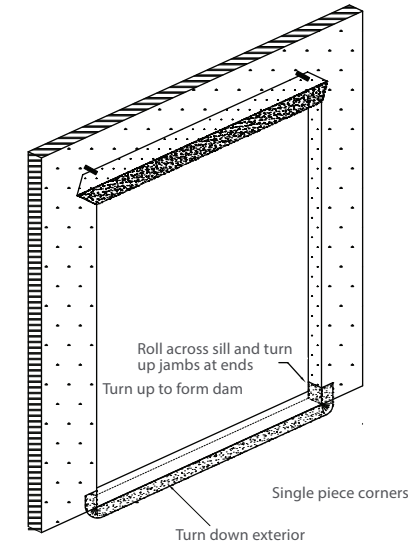

Figure 5
- A) Milgard recommends installers use pan flashing combined with a complete interior air dam around the product. **See Figure 5**